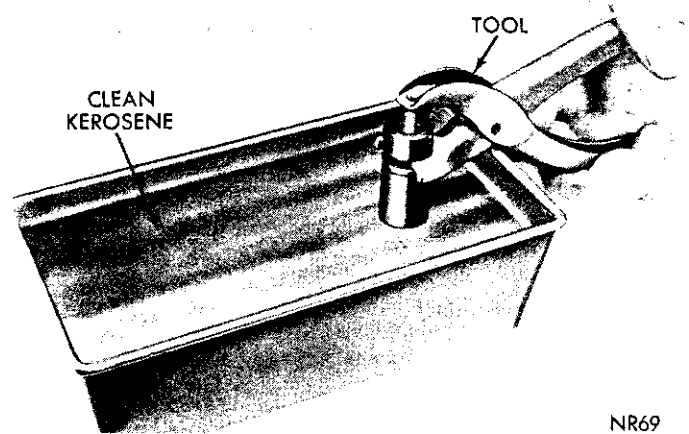

Fig. 20—Testing Tappet Using Tool C-3160
- (1) Fill a pan with clean kerosene.
- (2) Remove cap from plunger and plunger from tappet body.
- (3) Fill tappet body with kerosene and install plunger.
- (4) Unseat check valve with a brass rod to permit complete installation of plunger. Replace cap.
- (5) Hold tappet in an upright position and insert lower jaw of pliers, Tool C-3160, in the groove of tappet body (Fig. 20).
- (6) Engage jaw of pliers with top of tappet plunger. Test leakdown by compressing the pliers. If plunger collapses almost instantly as pressure is applied, disassemble tappet, clean and test again (Fig. 20).
- (7) If tappet still does not operate satisfactorily after cleaning, install a new tappet assembly.